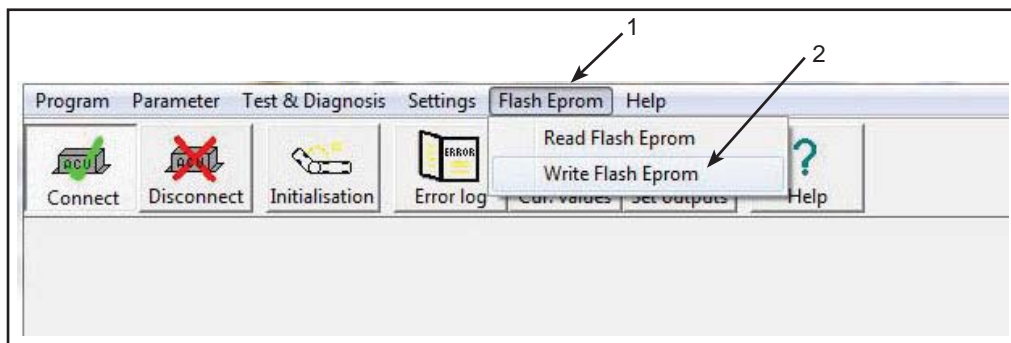

Figure 7 - Hübner Software Top Menu
- 1.9. Select **FLASH EPROM** (1) from the Hübner software top menu. See Figure 7.
- 1.10. Click on **WRITE FLASH EPROM** (2) in the sub-menu. See Figure 7.
If you can't access to the **WRITE FLASH EPROM** (2), see Figure 7, contact your Nova Bus service representative.